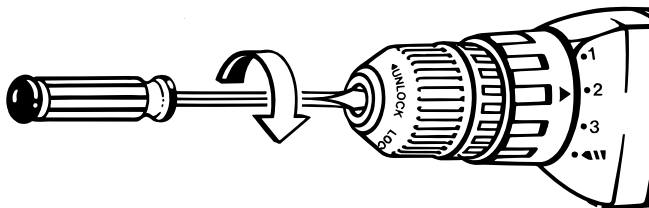

Fig. 14
- Open chuck jaws and remove allen wrench. Remove the chuck screw by turning it in a clockwise direction. See Figure 14. **Note:** The screw has left hand threads.